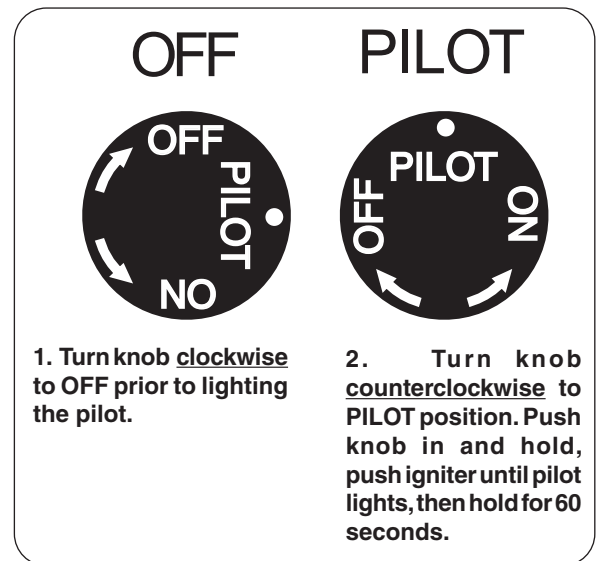

Fig. 37-1 Control knob detail (OFF, PILOT)
1. Locate the valve on the side of the unit. Push in the gas control knob slightly and turn clockwise to **OFF** (Fig. 37-1).
2. Turn the control knob counterclockwise to **PILOT** (Fig. 37-1). Push the control knob **firmly and fully** in and hold. Push the piezo igniter button several times until the pilot lights. Continue to hold the control knob in for approximately 60 seconds after the pilot is lit, then release the knob. The pilot will remain lit.